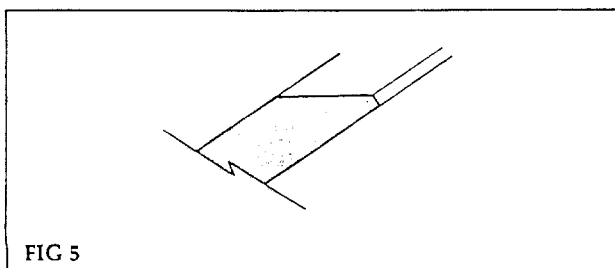

FIG 5
- Fig 5/1 Top head
- Fig 5/2 Hand controls top head
- Fig 5 Removing a taper-lock bush
- Fig 5 Bottom (excluding First) and top heads axial adjustment
The process of jointing, which can be repeated several times, produces a heel on the knives. In the interests of quality this must not be allowed to exceed a certain width. This is approx 0.5mm on softwood and 0.7mm on hardwood (see Fig 5).